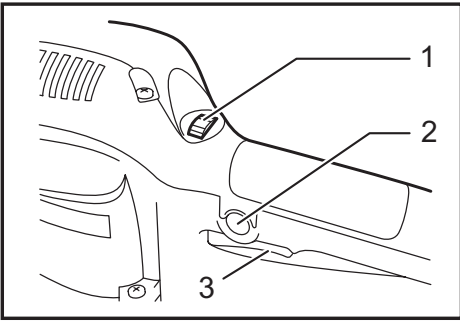

Fig.1
- Fig. 1: 1. Speed adjusting dial 2. Lock button 3. Switch trigger